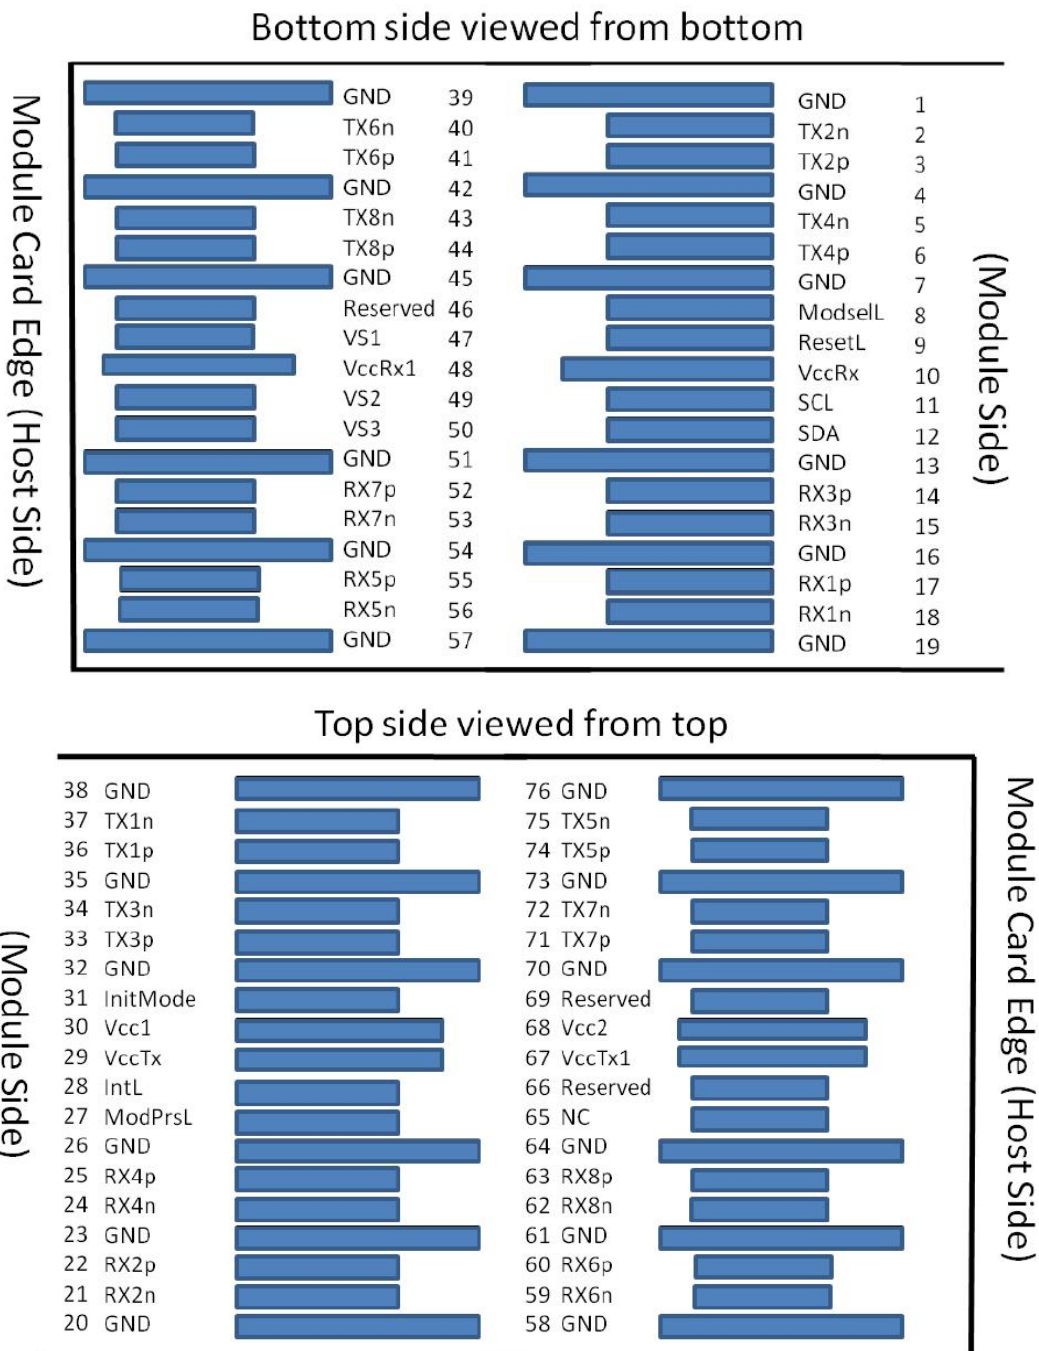

Figure 2 - QSFP-DD TO 2 QSFP Pin Define
The electrical design of the QSFP-DD TO 2 QSFP28 cable assembly is fully compliant to QSFP-DD TO 2 QSFP28 Hardware Rev4.0 specifications. The electrical design included: a low loss design printed circuit board, DC block capacitances in the Rx channel, and EEprom chips for the management. Pin layout and function definition are shown in Figure 2 and Table 1.
4. Plug Sequence specifies the mating sequence of the host connector and module. The sequence is 1A, 2A, 3A, 1B, 2B, 3B. (see Figure 2 for pad locations) Contact sequence A will make, then break contact with additional QSFP-DD TO 2 QSFP pads. Sequence 1A, 1B will then occur simultaneously, followed by 2A, 2B, followed by 3A, 3B.